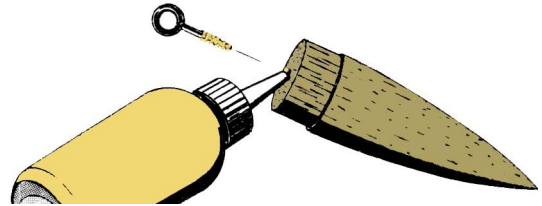

Figure 1
- **Step 5** Use the screw eye threads to cut a hole into the center of the base of the nose cone's shoulder. See Figure 1. Reverse the screw eye and coat the threads with glue. Force some glue down into the hole, and reinsert the screw eye until it bottoms out. Do not wipe the excess glue away. Let this dry in a point-down vertical position until the glue dries.